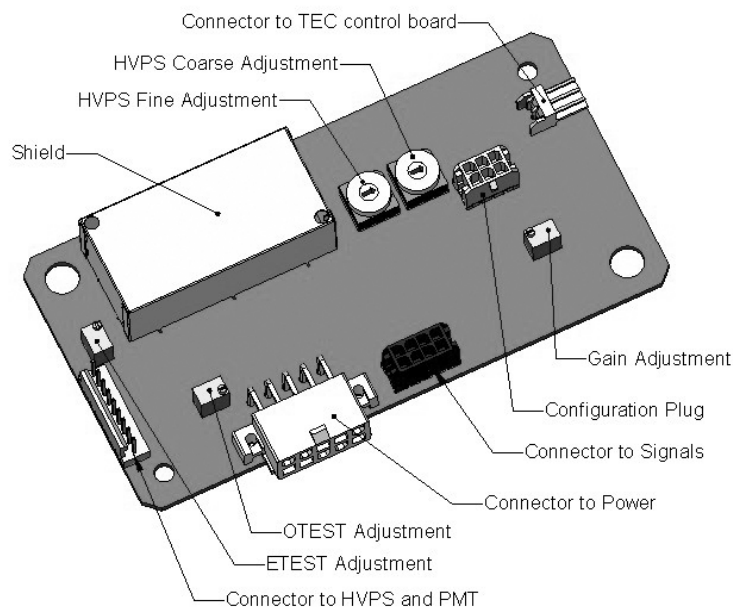

Figure 12-17: Pre-Amplifier Board (Preamp PCA) Layout
7. Locate the Following Components On the Preamp PCA (Figure 12-17):
11. Set the HVPS coarse adjustment to its minimum setting (0).
12. Set the HVPS fine adjustment switch to its maximum setting (F).